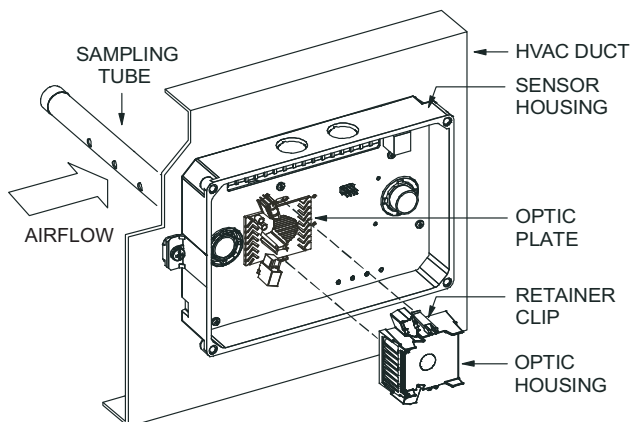

Fig. 44 — Sensor Cleaning Diagram
1. Disconnect power from the duct detector, then remove the sensor's cover (see Fig. 44).